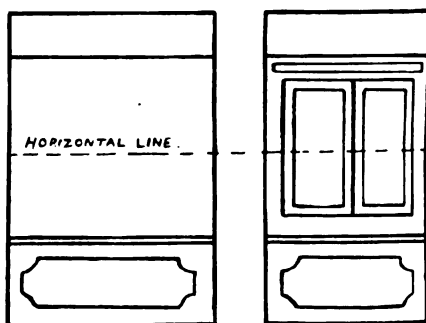
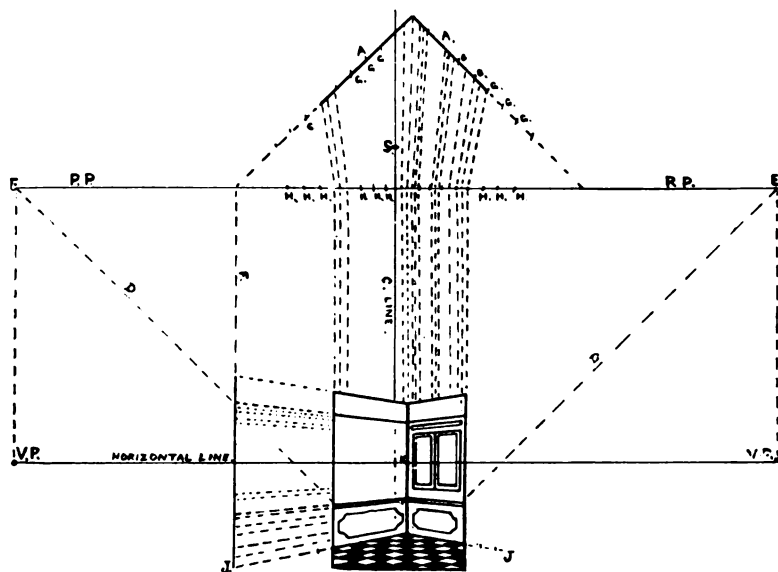

FIG. 2
FIG. 3
The vanishing points for drawing a picture in perspective are obtained from the visual angle, and are placed in their proper position on the line of sight or "horizontal line," F, the details of which we may easily learn from the following object-lesson. Let us suppose we have an enlargement with a white or block-out background on which we wish to draw an interior, say, the corner of a room, with a window on one side, the "elevation" of each wall singly being as shown in Fig. 2, the height of the walls to be represented as nine feet, and that of the windows four feet and
The walls being at right angles to each other, we draw a right angle on the upper part of a piece of paper (Fig. 3, AA), the sides of which equal in length those of the elevation (Fig. 2).
Next we take a strip of paper and mark off the distances of the horizontal ends of the panels, cornice, and windows, by putting it against the elevation (Fig. 2) and transferring it to AA, Fig. 3. We now determine the position of the "sitter," say, two feet forward from the outermost extremity of right angle AA, and nearly one foot to the left of the corner where the walls meet. Next draw a vertical line (C) through S, and, determining the eye of the observer to be, say, twenty feet from the sitter (S) continue it downward to that point, O, according to the scale on which we are working.
right angles to *P. P.* Now take a strip of paper, and from the elevation (Fig. 2) obtain the heights of the frieze, panels, windows, horizontal line, etc., and transfer them to the *F* line, taking care that the horizontal point is placed where the horizontal line in Fig. 3 bisects *F*. We can now draw the horizontal lines of the background by placing one end of the straight-edge against these "height" marks and the other against the *V. P.*'s. Draw the left-hand side first, and commence and end the lines according to their places as shown by the vertical dotted lines. In drawing the right-
picture-plane line the horizontal distances of the panels, cornice, and windows. Note that they converge together, being the dotted lines in Fig. 3 from *AA* to *P. P.* When each line touches the *P. P.* line, drop it perpendicularly to about *O*. (In the figure, for the sake of clearness, they are not taken so far. These vertical dotted lines give us the correct dimensions for the horizontal lines of our drawing.